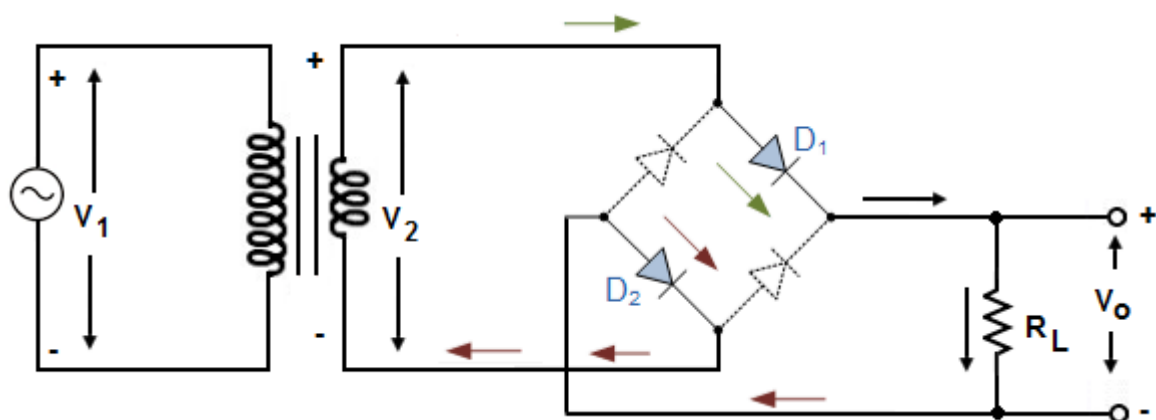

Fig.1.22: Equivalent circuit during positive cycle
- Applying KVL to the circuit shown in Fig.1.22, we get